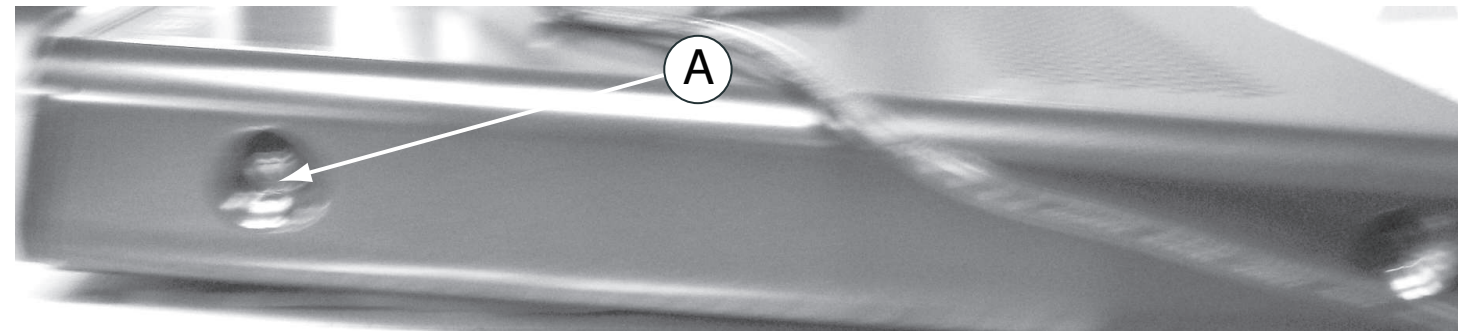

Figure 4
- 1 screw "A" each on the left & right side as shown in figure 4.